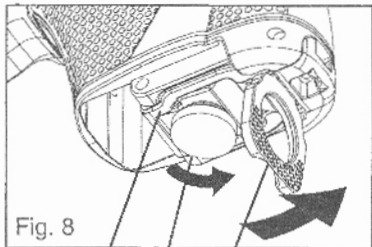

Fig. 8
- open the cover downwards (Fig.8);
- untighten the ring counter clockwise (Fig.8);